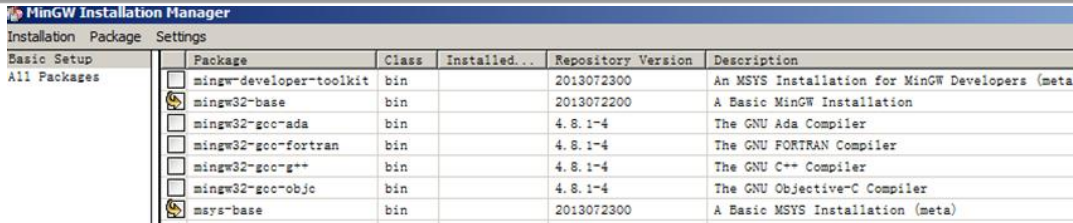

Figure 18 MinGW Installer
3. Select the mingw32-base and the msys-base under the Basic Setup as shown in Figure 18 MinGW Installer.